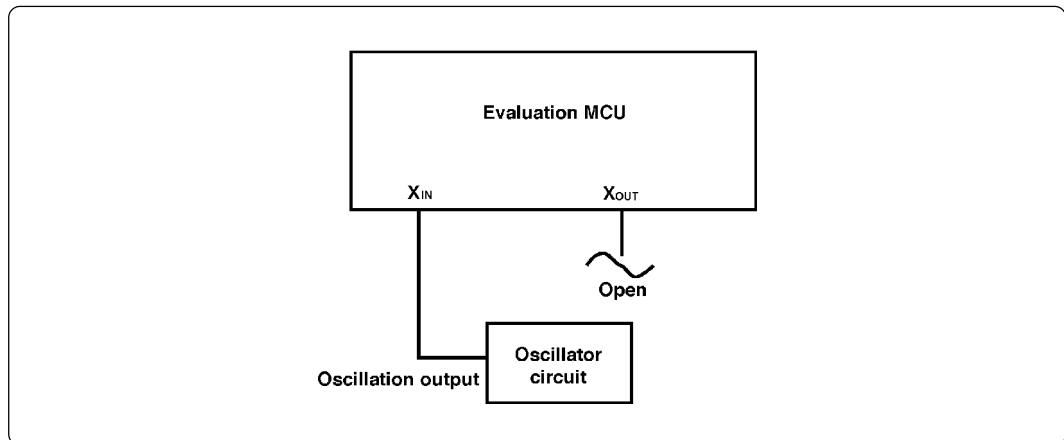

Figure 3.4 External oscillator circuit
- To operate the emulation pod with an external clock, construct the oscillator circuit as shown in Figure 3.4 in the target system and input the oscillator output at 50% duty (within the operating range of the evaluation MCU) into the  $X_{IN}$  pin. And the  $X_{OUT}$  pin should be open.